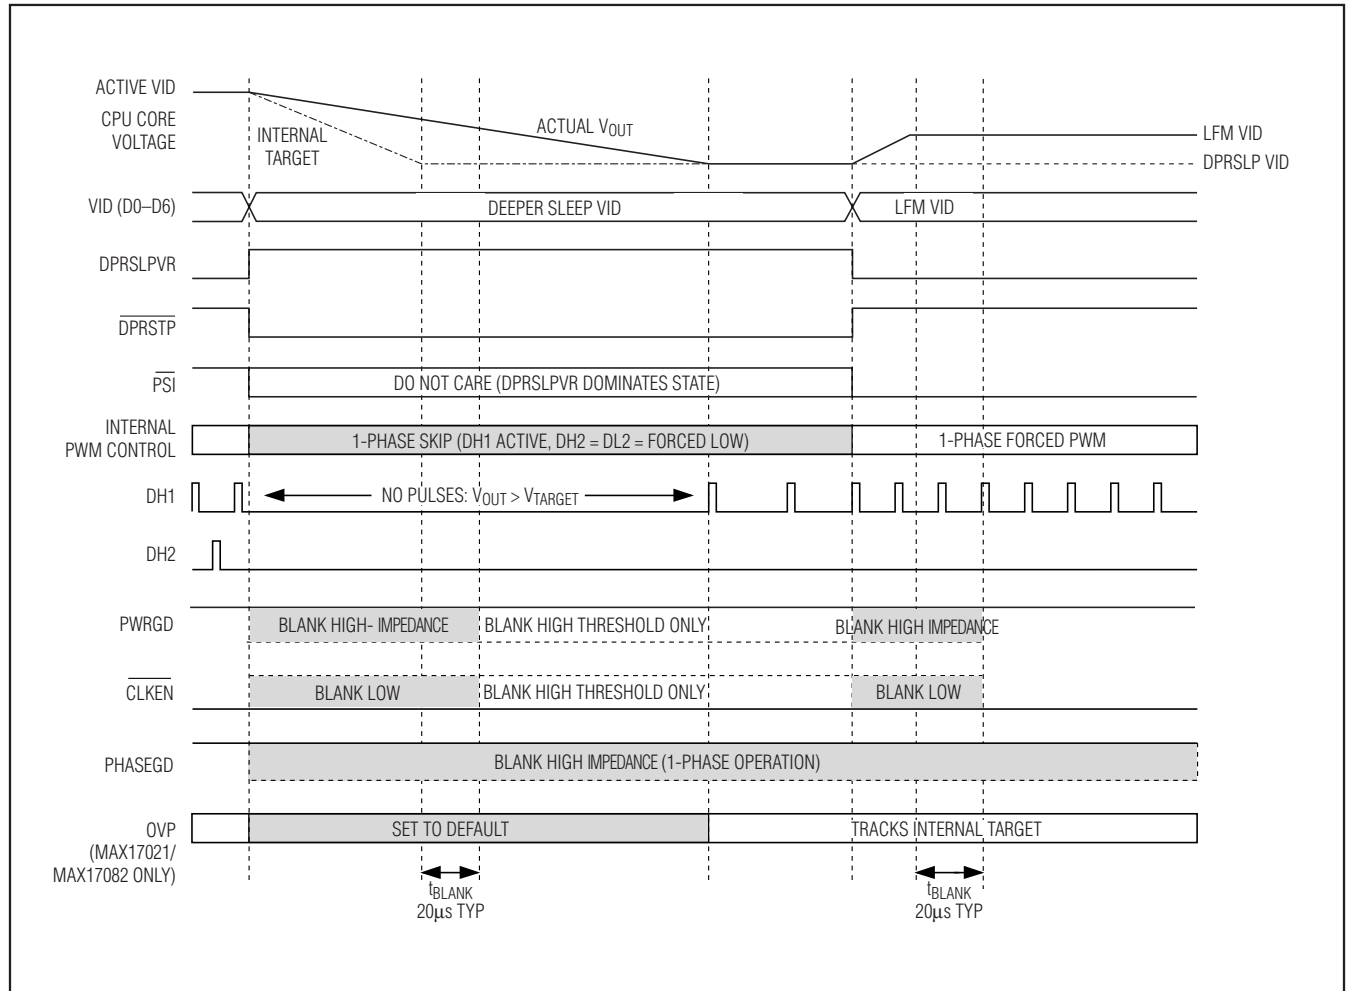

Figure 6. Standard C4 Transition
- Standard C4 Deeper Sleep Exit:** When exiting deeper sleep (DPRSLPVR pulled low) while the output voltage is regulating to the deeper sleep voltage, the MAX17021/MAX17082/MAX17482 immediately activate all enabled phases and ramp the output voltage to the LFM DAC code provided by the processor at the slew rate set by  $R_{TIME}$ . The controller blanks PWRGD, PHASEGD, and CLKEN until 20 $\mu$ s after the transition is completed. See Figure 6.